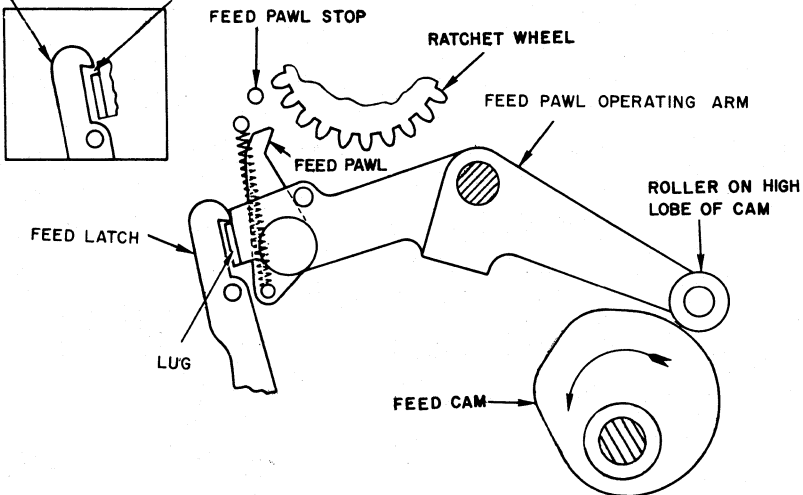

Figure 6
1. With the feed pawl operating arm roller on the high dwell of the feed cam, the feed latch should move freely over the lug of the feed pawl operating arm. Form the feed pawl operating arm to meet the above requirement (Figure 6). The clearance is necessary to insure unlatching.